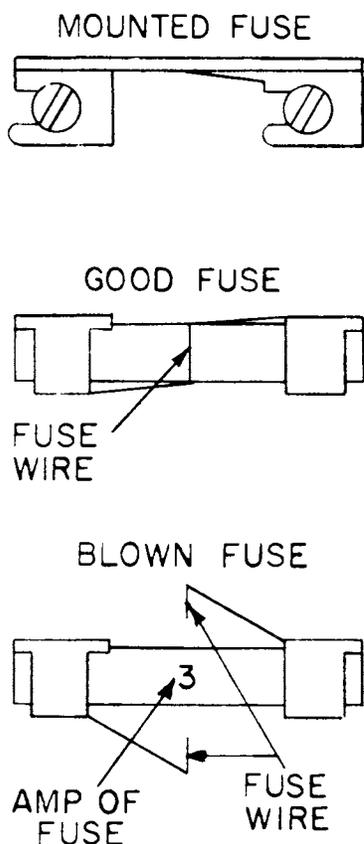

Figure 14. Alarm indicating type fuse.
Figure 14 shows an alarm-indicating power fuse. Another fuse used is the cartridge type fuse. Cartridge type fuses are used for fusing commercial a-c power.
- (1) Loosen both screws that hold the fuse.
- (2) Slide the fuse out from under the screws.
- (3) Slide a good fuse under the screws.
- (4) Tighten the screws.
7.7 Alarm-indicating Power Fuse Repair (Figure 14)